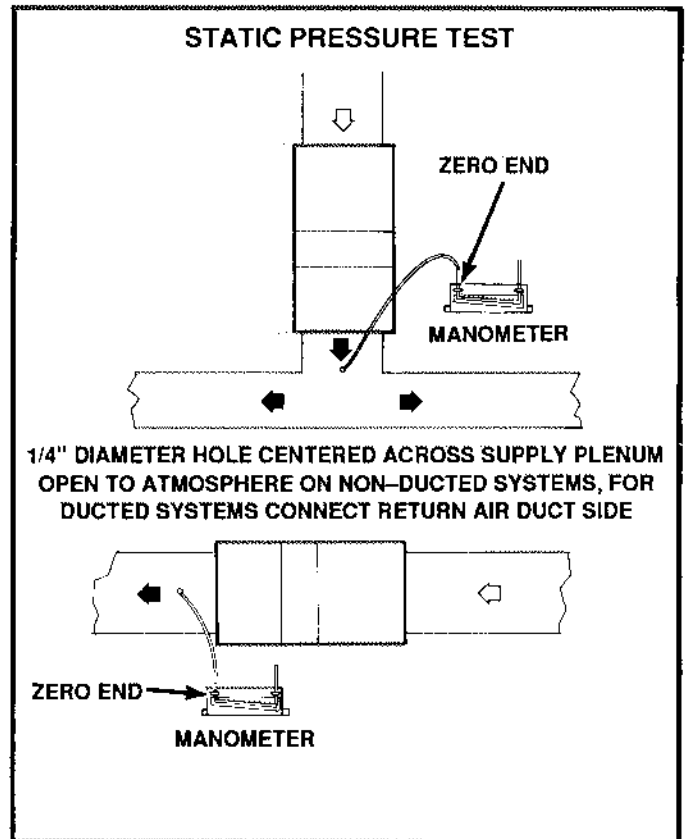

FIGURE 25
- 1- Measure tap locations as shown in Figure 25.